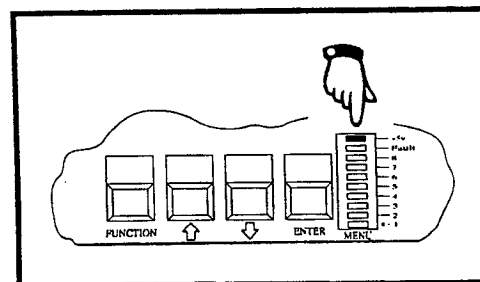

Figure 2-8
- (f) Turn **ON** the Mains ON/OFF switch. Check to see that the **+5v** indicator LED illuminates on the **Menu Display** located on the CPU card as shown in Figure 2-8.